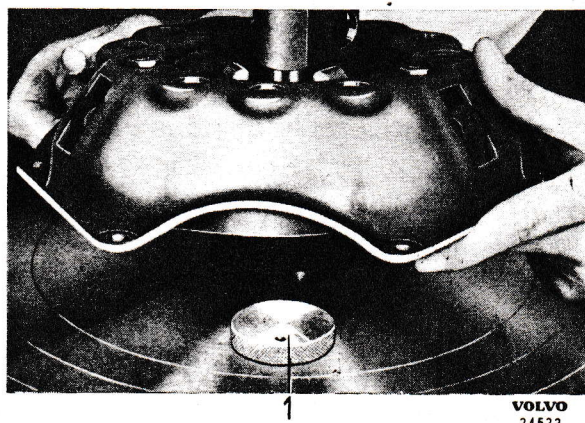
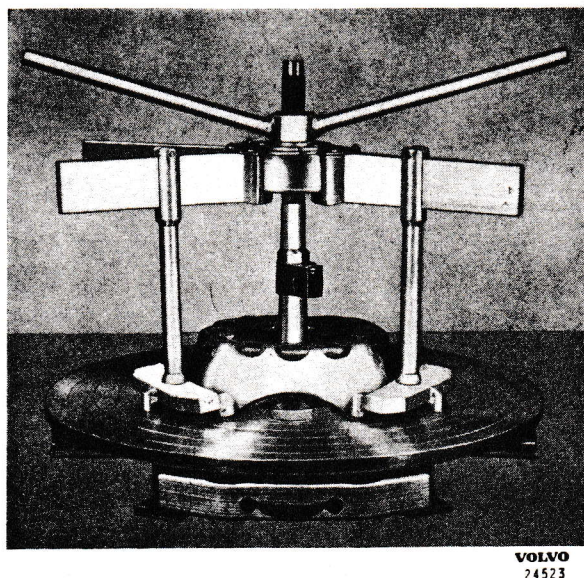

Fig. 6. Placing clutch in fixture, 1.
Fig. 7. Placing the clutch in the fixture, II.
2. Place the packing blocks No. 0 on fixture SVO 2322, see Fig. 6. Place on the clutch, the 3-point supports, the arms and the three thrust rods, see Fig. 7. Place on the wrench and press down the clutch until the housing contacts the bottom plate.
3. Screw off the three adjusting nuts for the clutch release levers (31).
4. Screw up the wrench and remove the arms and thrust rods. Remove the clutch cover casing (21).